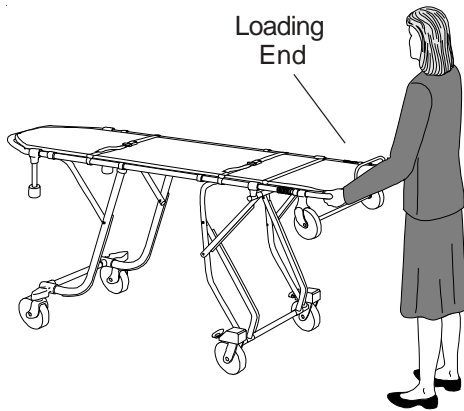

Figure 3 - One Operator Lowering Cot
1. Stand at **loading end** of cot and grasp main frame corners with an underhand grip (Figure 3).